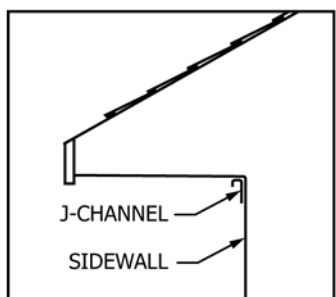

FIG. 23 J-Channel Installation at Top of Sidewall
10.4 *Top of Sidewalls*—If vinyl soffits are to be installed, install the soffits before installation of J-channels at the top of all sidewalls. For vinyl soffit installation see Section 11. Install J-channels along the top of all wall areas that will receive vertical siding. Lap where necessary, removing 1 in. (25.4 mm) of the nailing flange of the overlapping piece and lap 3/4 in. (19 mm). (See Fig. 23.)